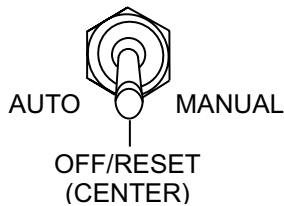

Figure 54. Auto Off/Reset Manual Switch (Off/Reset)
3. Place the **Auto Off/Reset Manual Switch** (Figure 54) in the **OFF/RESET** position.